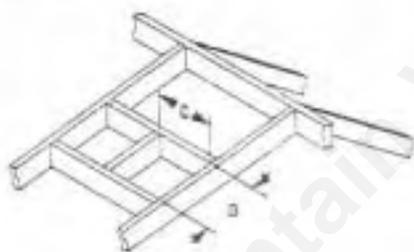

Figure 20
H. Identify location for vent at the roof. Cut and/or frame opening per Roof Framing Chart and Figure 20.